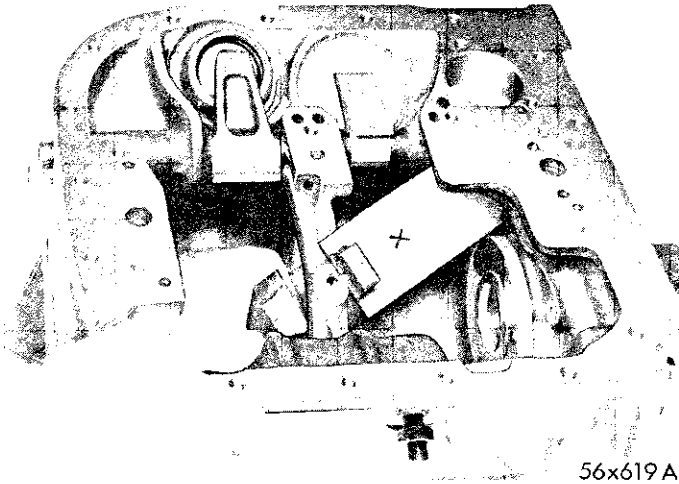

Fig. 46—Removal and Installation of Kickdown Band
(2) Remove the kickdown band assembly by rotating band ends over center support in transmission case, as shown in Figure 46. Both bands have bonded lining and no attempt should be made to reline them. The kickdown band is wider and has different lining material than the low-reverse band.